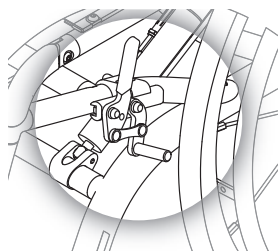

Figure 19.18 Push to lock style wheel locks.
- 2 To engage the push to lock wheel locks in Figure 19.18, bring the lever forward until it locks into place.